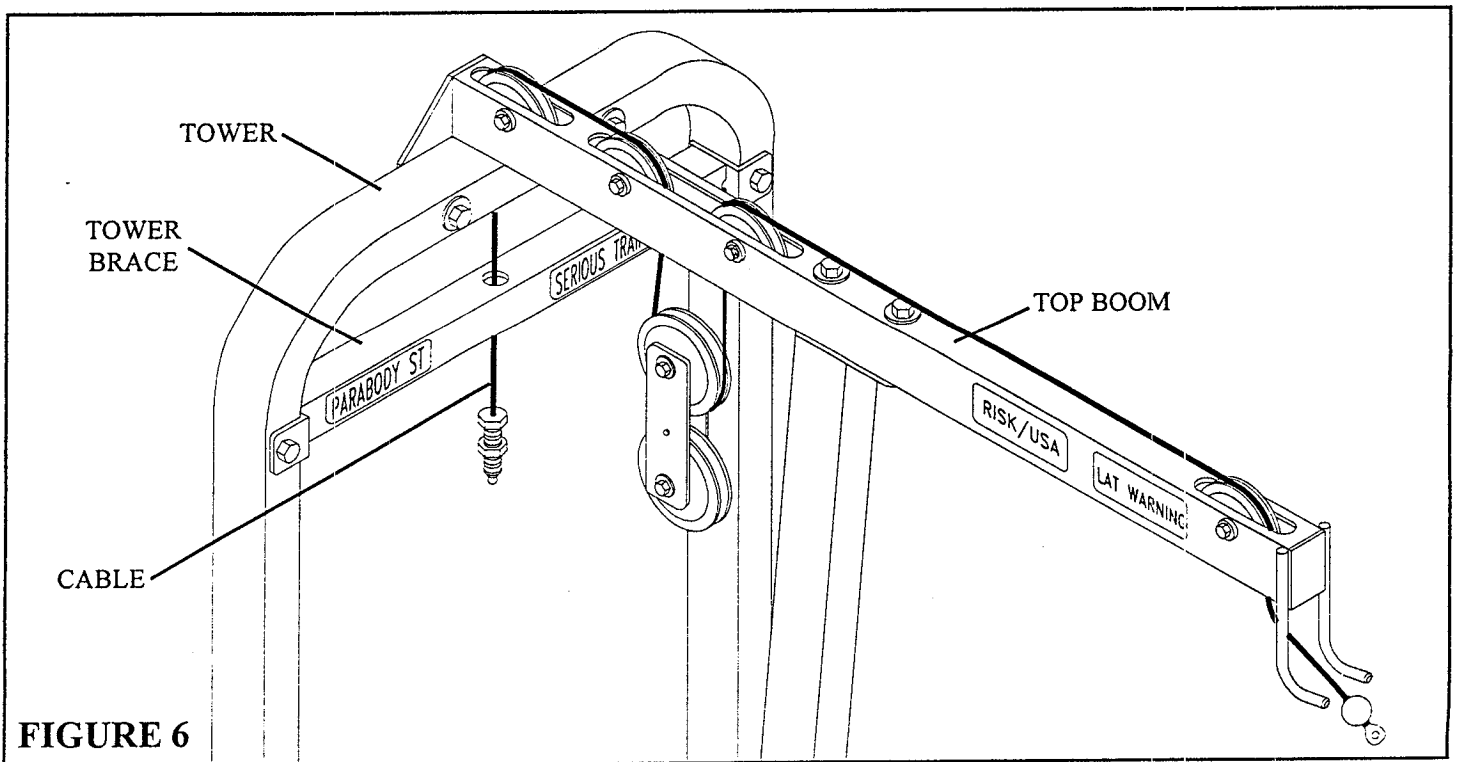

**FIGURE 5**
Place TOWER BRACE over the GUIDE RODS (2) and securely fasten TOWER BRACE to TOWER using previously removed 1/2" X 4" BOLTS, 1/2" WASHERS, AND 1/2" NUTS as shown in FIGURE 5.